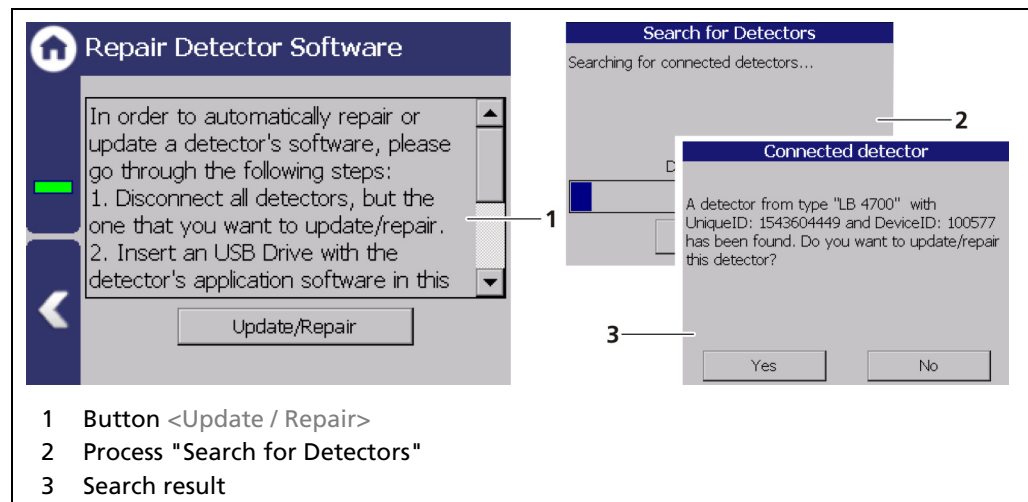

Fig. 41 Repair Detector Software
1. To restart the device, click the button <Restart> (Fig. 41, item 1).
- ▶ A window with a warning "Reboot" (Fig. 41, item 3) opens.
1. To reset the evaluation unit to the factory settings, click the button <Factory settings> (Fig. 41, item 2).
- ▶ A window with the warning "Factory settings" (Fig. 41, item 4) opens.